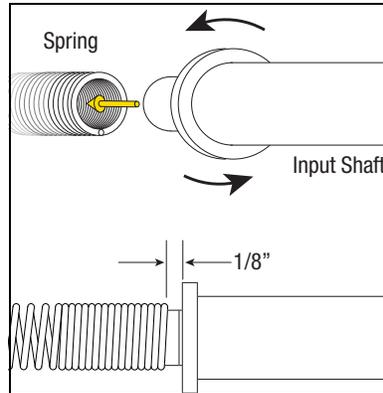

Figure 15. Screwing Input Shaft CCW Into Encoder Spring
- With the encoder spring in your left hand and the input shaft in your right, orient the input shaft as shown in Figure 15, then rotate the input shaft in a counter-clockwise direction as you 'screw' it into the spring until the flange on the input shaft is about 1/8" from the end of the spring.